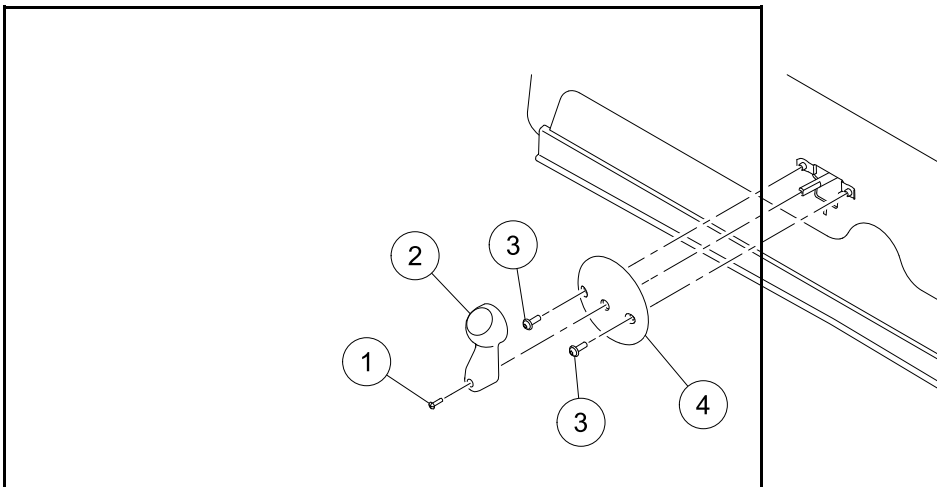

Figure 24-16 Forward/Neutral/Reverse Handle
1. Remove the bolt (1) from the Forward/Neutral/Reverse handle (2) (**Figure 24-16, Page 24-14**).
2. Remove the bolts (3) from the bezel (4).
1. Install the bezel (4) and the bolts (3). Tighten the bolts to 22 lb·in (2.5 N·m) (**Figure 24-16, Page 24-14**).
2. Install the Forward/Neutral/Reverse handle (2).
3. Install the bolt (1). Tighten the bolt to 15 lb·in (1.5 N·m).